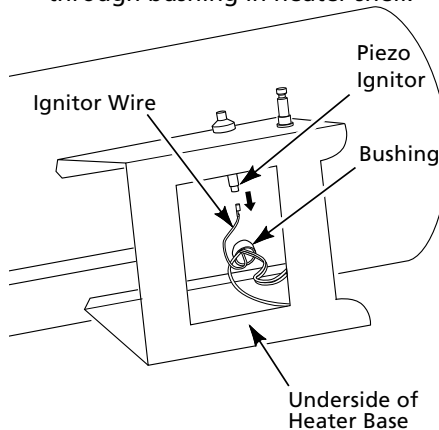

**Figure 13 - Replacing Motor and Fan Guard into Heater**
- Place motor and fan guard into rear of heater shell. Make sure power cord is properly located (See Figure 13).